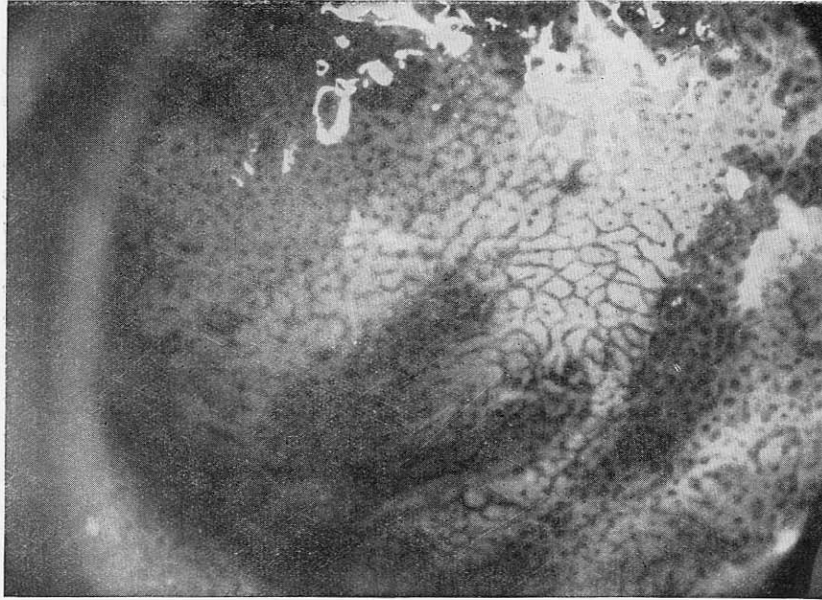

Fig. 2
1. Colpophotographic exposures (Fig. 2)